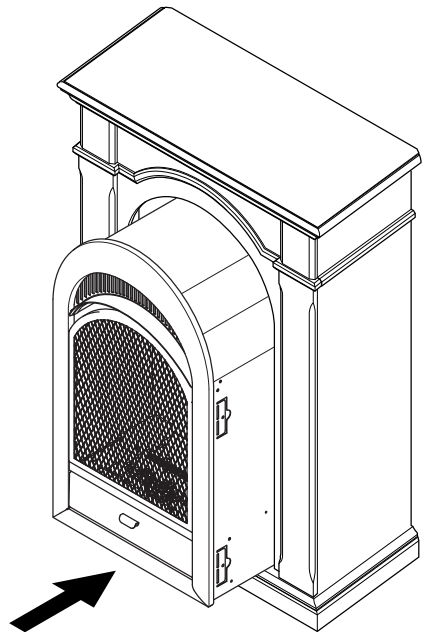

Figure 10 - Installing Fireplace Insert Into Mantel
1. Carefully push the fireplace insert into the mantel from the front as shown in Figure 10.